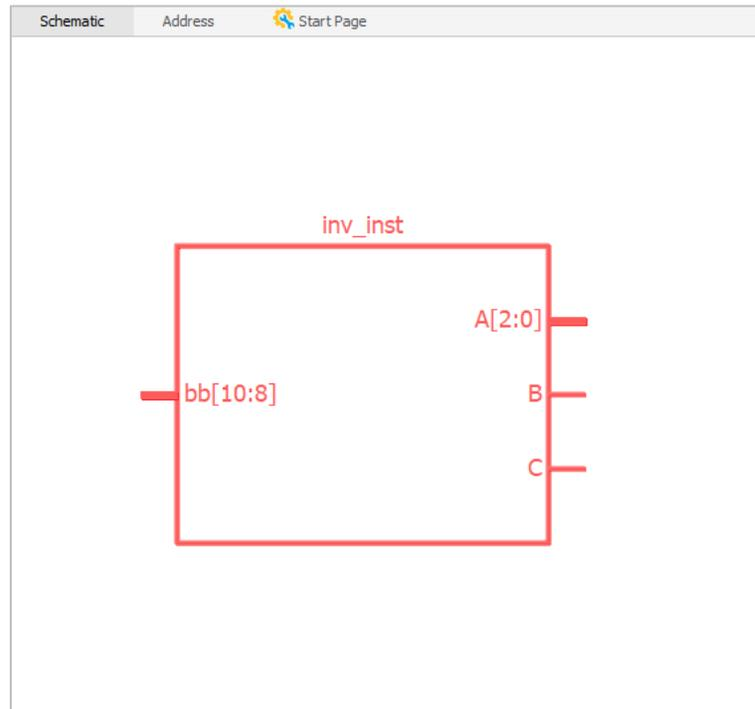

Figure 2.55. Schematic View Shows the Custom RTL Module
- Click **OK**. The schematic block for the RTL module in red appears in the Schematic view (Figure 2.55).